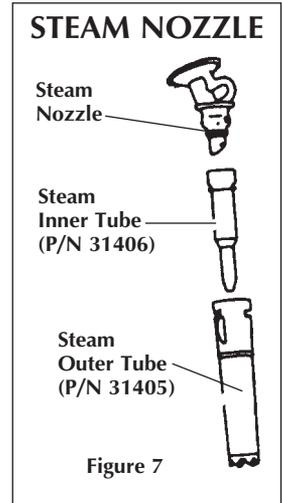

Figure 7
3. The Steam Nozzle separates for easy cleaning. (See Figure 7.) Disassemble the Steam Nozzle by holding the 2 fins of the Steam Nozzle in one hand and turning the Outer Tube counter-clockwise and pulling it down to remove. Do the same for the Steam Inner Tube. These can be rinsed or soaked in hot water to clean. If necessary, use a pin to clear any blockage. Replace by turning clockwise and fit into position.